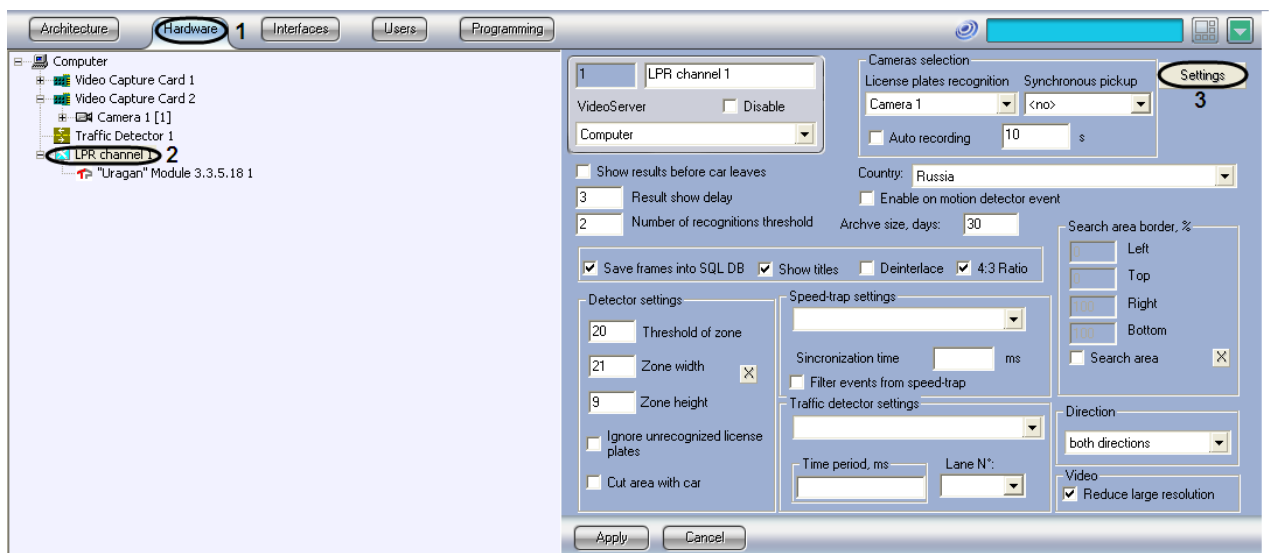

Fig. 7.2-8 Access to frame sign parameters
1. In the System Settings dialog window, open the Hardware tab (Fig. 7.2-8, 1).
2. Select the LPR channel, corresponding to the activated Auto-Uragan3.3.5.18 module, in the objects tree on the Hardware tab (see. «Program module activation, used for Plates identification»). The settings panel of the selected object will open on the right side of the window Fig. 7.2-8, 2).
3. Click Settings button (Fig. 7.2-8, 3).